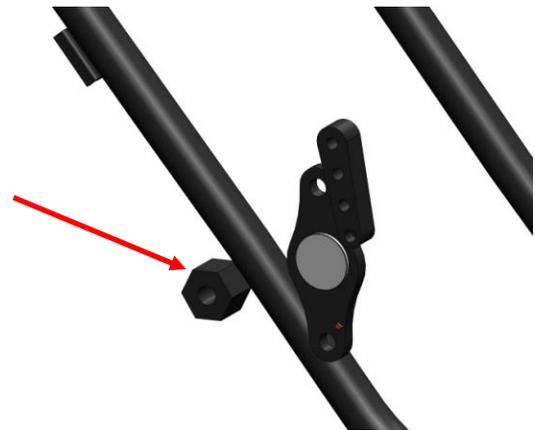

Figure 4
- Trim OEM mounting tabs to allow clearance for the Anti-Roll Bar Assembly. See Figure 4